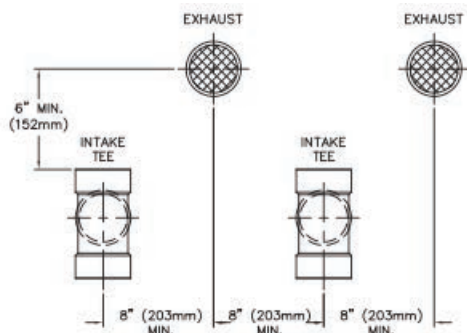

Figure 3.2: Vent Pipe Spacing for Multiple Series PBC™ Boilers
- d. For multiple boiler installations, the minimum horizontal distance between the inlet of one boiler to the exhaust of an adjacent boiler is 8" center-to-center. In addition, the minimum vertical distance between the exhaust and air inlet is 6". See Figure 3.2 for an illustration.